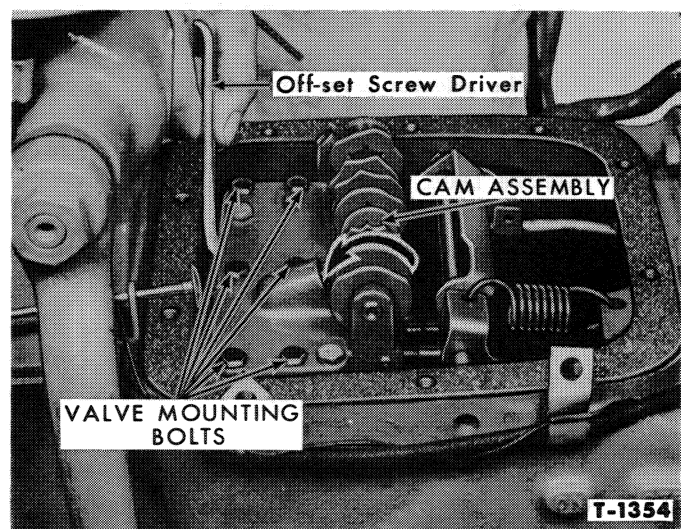

Figure 77—Adjusting the Control Valve
3. Using an offset screwdriver, that has been ground off at both ends as shown in Figure 77, adjust the pressure settings of the plungers in accordance with the specifications and procedures covered under "Checking System Pressure" in the Trouble Shooting section of this manual.
4. When adjusting the regulating plunger relief valves, it will be necessary to locate the neutral and tenth speed ratios. Neutral is obtained by rotating the camshaft three positions from park in the direction shown in Figure 77. Tenth speed is located one position in the opposite direction from park.